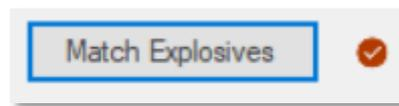

Figure 394 - Match Explosives was done.
- After completing the matching, a verified icon will appear next to "Match Explosives" to indicate successful synchronization. (Figure 394).